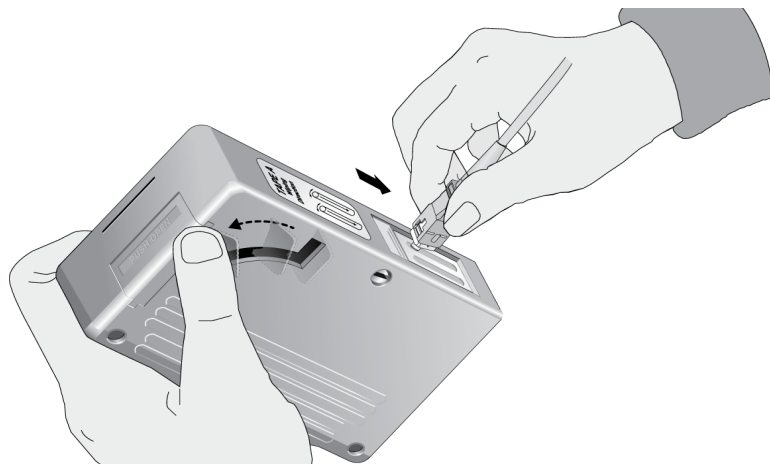

Figure 52. Rubbing the Ferrule Tip on the Cleaning Surface
1. With one hand, hold the cartridge cleaner and push the lever on the cleaning cartridge in the direction of the arrow to expose the cleaning surface, as shown in Figure 52.
2. Place the ferrule tip on the exposed cleaning surface and rub the ferrule in a downward direction, as shown in Figure 52.